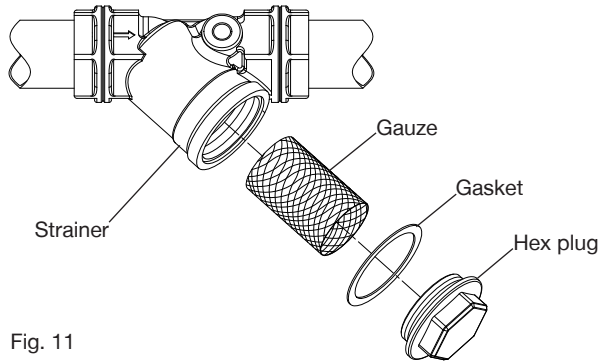

Fig. 11
The strainer is located in the inlet pipework to the pump (Fig. 11). The gauze filter is removed as follows:-
- d) Remove screwed hexagonal plug from strainer body taking care to collect or absorb any residual water (Fig. 11).